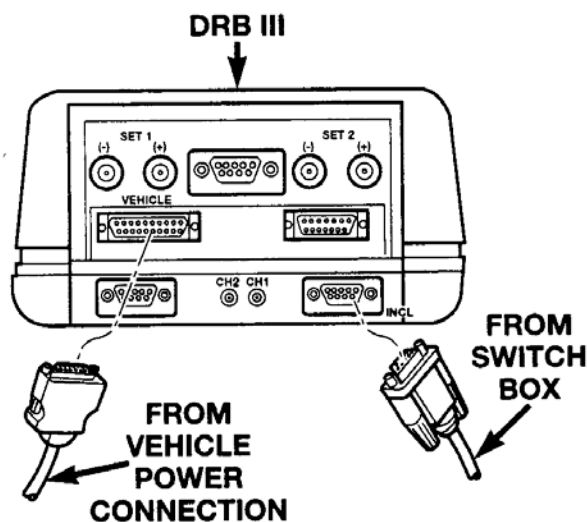

Figure 16
- a. Plug the cable from the switch box (Special Tool #6996) into the PEP module connector on the DRB III marked "INCL" (Figure 16).
- b. Plug the power cable (supplied with the DRB III kit) into the DRB III power connector marked "VEHICLE" (Figure 16).